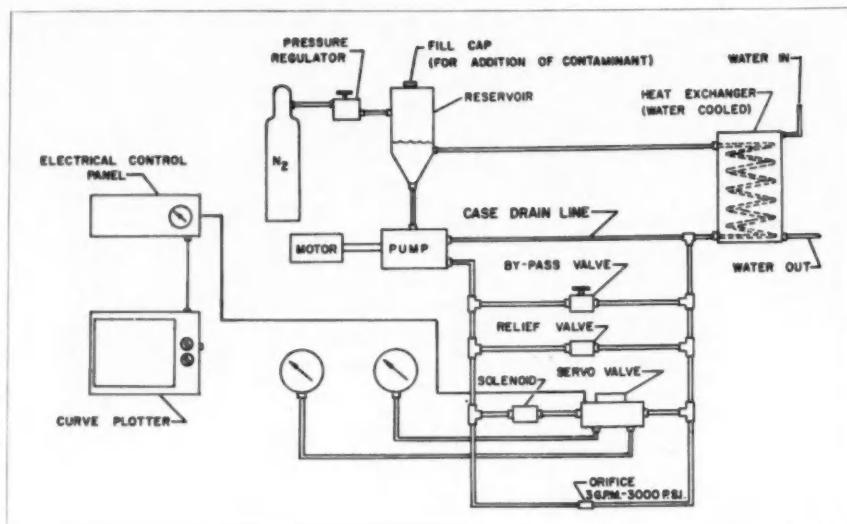

Fig. 3 — Hydraulic system for servo-valve contamination tests.
2. *Test Procedure* — The electro-hydraulic servo valve was placed in the hydraulic system shown in Fig. 3. The operation of the valve was observed by means of hysteresis curves taken in the null region as the contamination concentration or level was in-